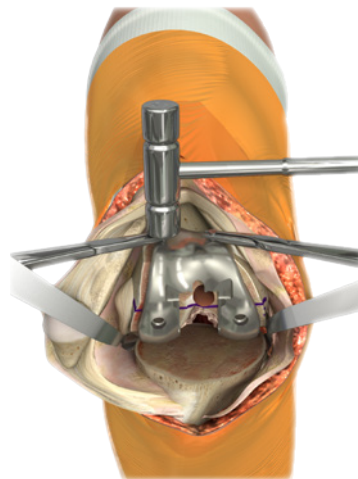

Figure 20
3. Secure the selected femoral trial to the bone using two short headed pins in the anterior flange (Figure 20).